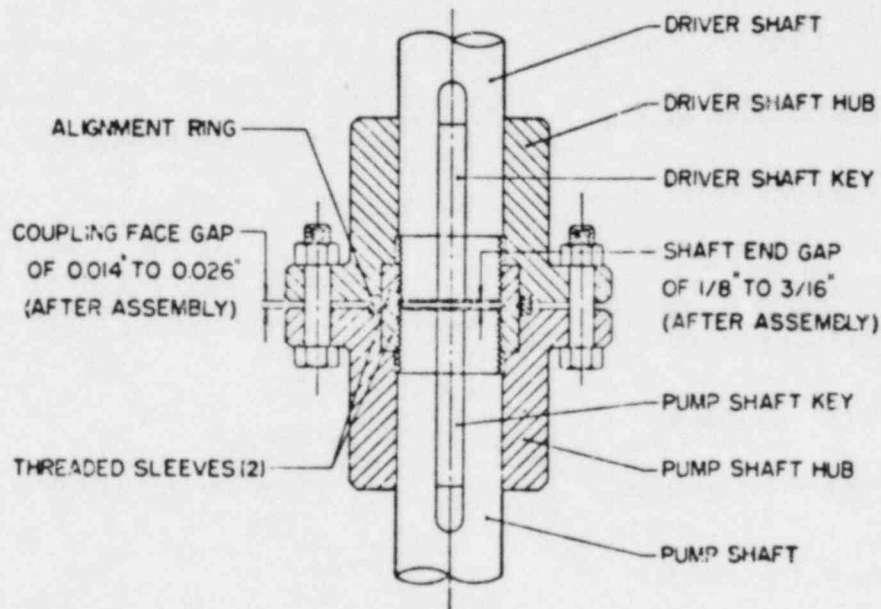

FIGURE 1
1. Open Lineshaft (Pump element not assembled to column & head) (Refer to Fig. 1)
B. Lower pumping unit (7) to a point where shaft can be readily coupled to pump shaft and then lower column section (5) with line shaft, aligning the bolt holes on the flanges. NOTE: Do not use pipe thread sealing compound on shaft or shaft coupling.
E. Place bearing spider (6) in recess of column flange.
Description: Refer also to Figure 1 below: